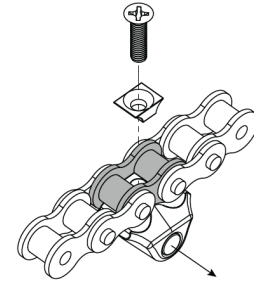

Figure 20. Target Magnet Toward Operator Attached to a Fixed Link
5. Attach the limit magnet to the fixed link (Figure 20). Point the magnet towards the operator.